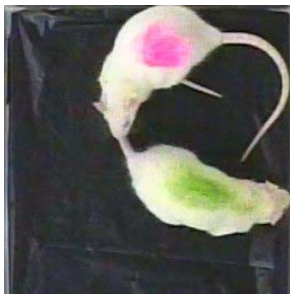

Figure 7.1 *An example of color-marked rats in a social interaction test.*
- Use colors that have different hue values (Figure 7.1). For example, use orange and green, pink and yellow, not red and orange. Avoid using red for marking, since it looks like blood.